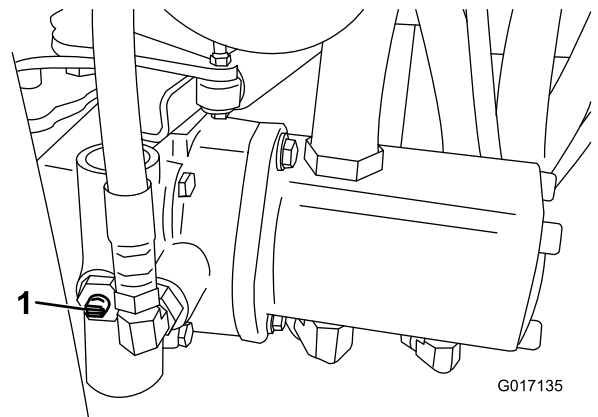

Figure 32
1. Locate the bypass valve on the pump and rotate it so that the slot is vertical (Figure 32).
2. Before starting the engine, close the bypass valve by rotating it so that the slot is horizontal (Figure 32). Do not start the engine when the valve is open.